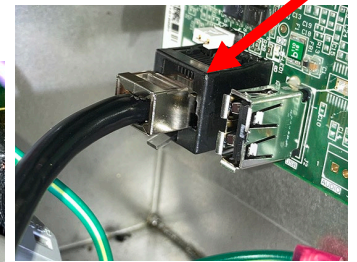

Figure 32
29. Connect the RJ45 connector from the KCCM power harness to the **BLACK** RJ45 connector, next to the USB connector on the KCCM board (see Figure 32). **NOTE: There are two (2) RJ45 connectors on the KCCM board. It MUST be connected to the BLACK RJ45 connector to operate properly.**